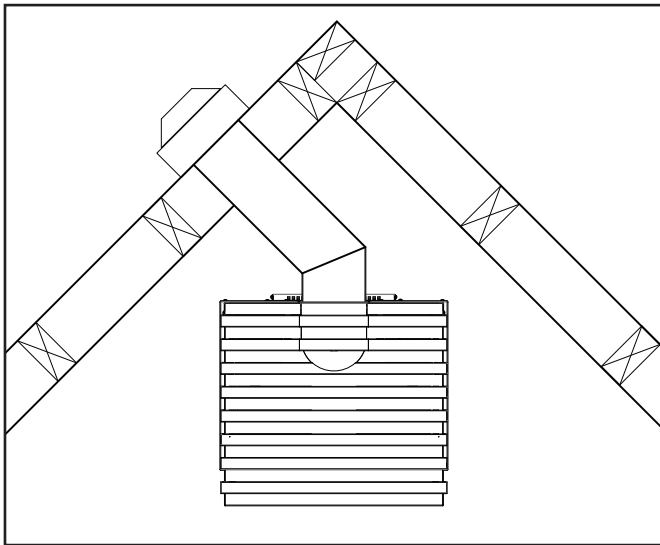
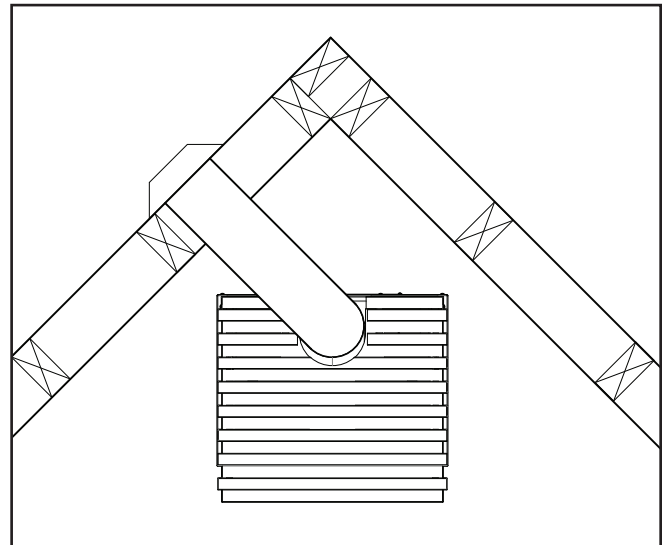

Figure 49: Corner installation rear vented with snorkel.
Figure 50: Corner installation top vented.
When rear venting if a 90° bend is used the maximum horizontal vent that can be used is 6" (152mm) and if a 45° bend is used the maximum horizontal vent that can be used is 12" (305mm). For installations with a 36" (915 mm) snorkel refer to Figure 49 and section “Vent Configurations” on page 25. For other corner installations refer to Figure 50 and section “Vent Configurations” on page 25.
Step 3: Remove the ON/OFF terminal block from the X4 port on the IFC (Figure 50).